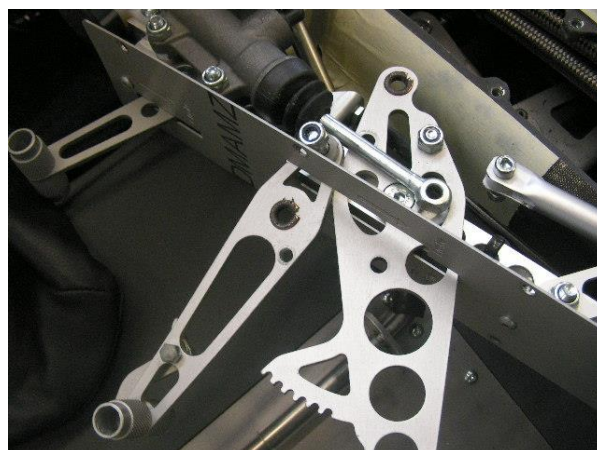

Fig. 4 – Dismounting throttle lever stop screw
- 8 Demount front throttle lever stop screw (Fig. 4)